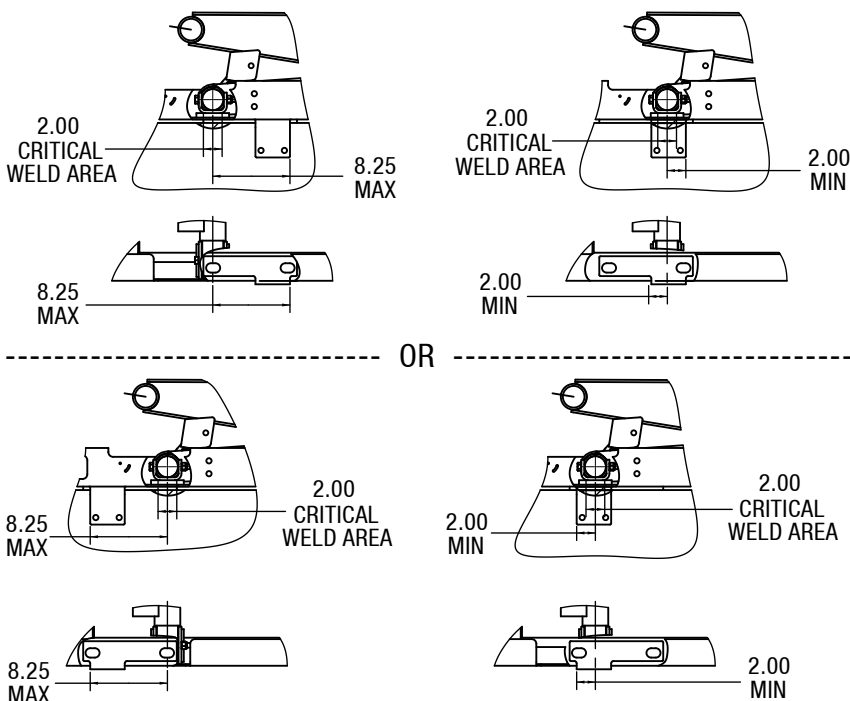

Figure 7: Mounting Angle Location
2. Locate the ideal mounting angle location along the chassis frame while keeping within the guidelines shown in Figure 7. Ensure the weld from the sub-frame to the mounting angle will be positioned directly below the saddle tube.